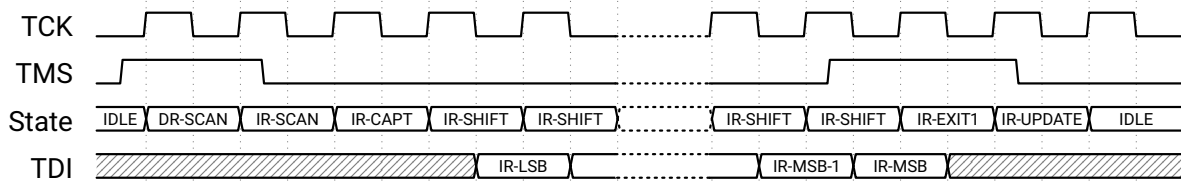

Figure 3.12: JTAG instruction shift *NEW COMMAND*
The typical procedure is to first load the instruction and then write or read the data associated with this instruction. The JTAG host controller must drive the signals TCK, TMS and TDI in the according way as illustrated shown in Figures 3.12 and 3.13. The instruction register (IR) size is 6 bits. Instructions have to be shifted into the JTAG TAP with least significant bit (LSB) first.